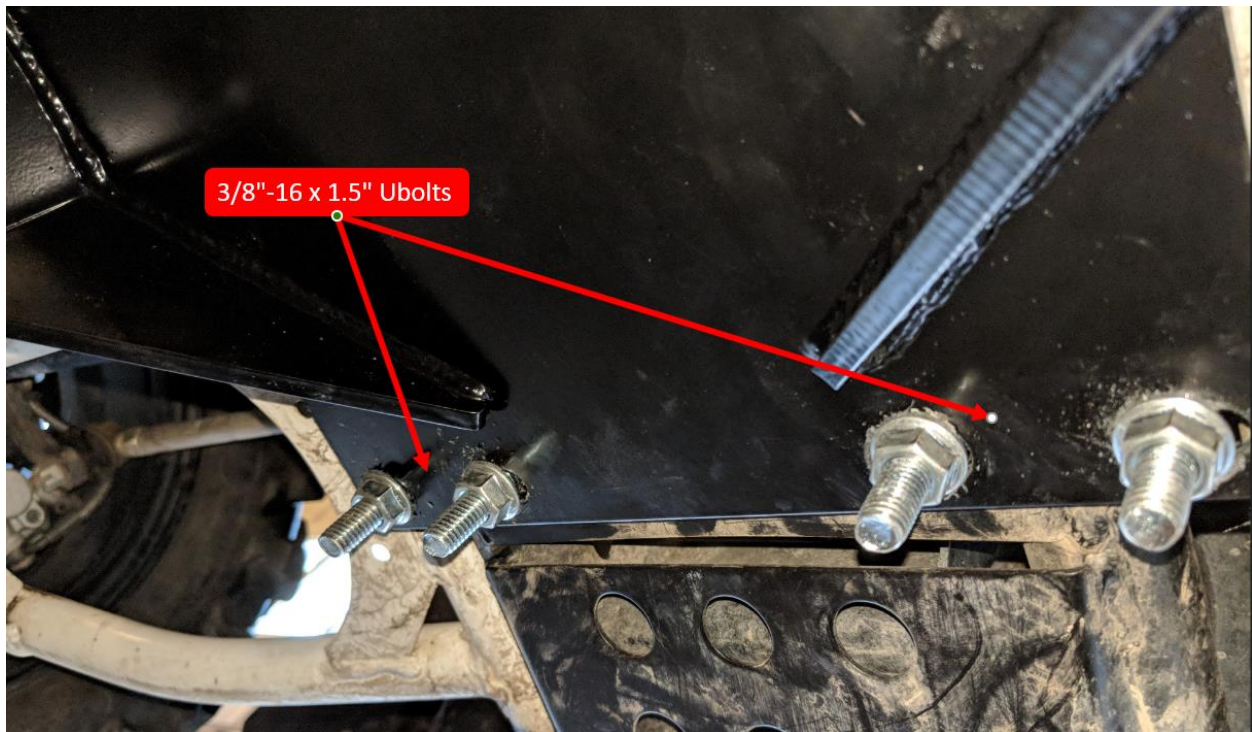

Figure 4
4. Lift the back of the MA11767 Main Mounting Plate into place and secure with 3/8"-16 x 1.5" ID Ubolts and 3/8"-16 Serrated Flange Nuts as shown in Figure 4.